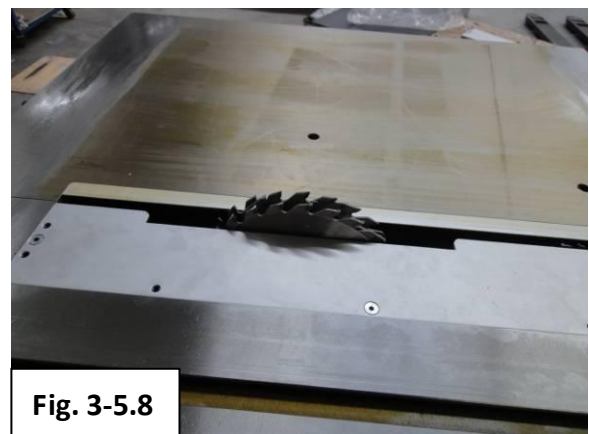

Fig. 3-5.8
9. Place the Dado throat plate as Fig. 3-5.8 to finish the fitting process.